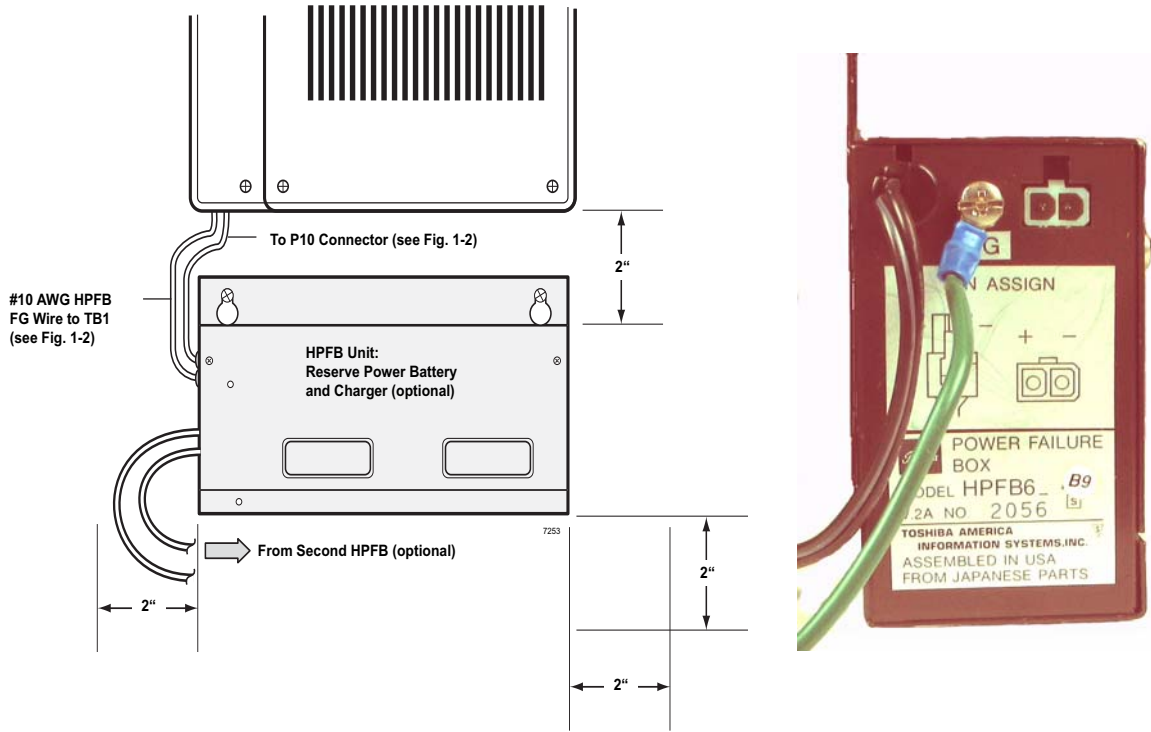

Figure 1-28 HPFB-6 Reserve Power Installation
- Place the HPFB-6 directly below the Strata CIX40 Cabinet. See Figure 1-28 for minimum clearance requirements. A second HPFB-6 can be installed directly below the unit to supply backup reserve power.